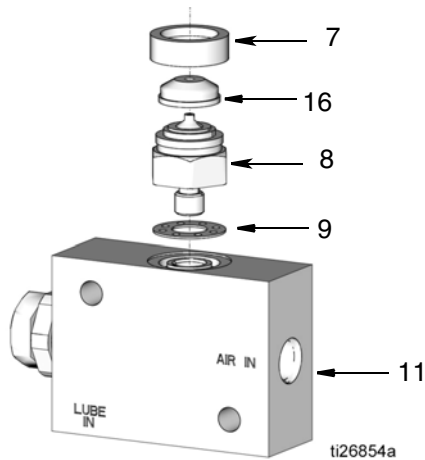

FIG. 6
3. Remove the air valve spray assembly (7, 8, 9, 16) (FIG. 6). Separate all parts.